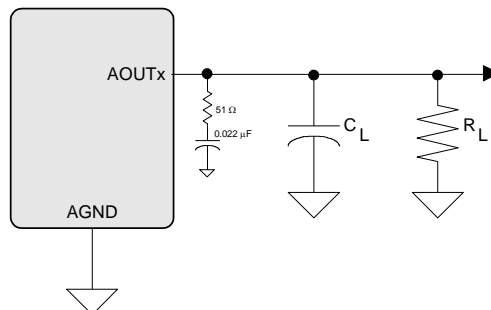

Figure 3. Headphone Output Test Load
(Test conditions (unless otherwise specified): Input test signal is a full-scale 997 Hz sine wave; measurement bandwidth is 10 Hz to 20 kHz; Sample Frequency = 48 kHz and 96 kHz; test load $R_L = 10\text{ k}\Omega$, $C_L = 10\text{ pF}$ for the line output (see Figure 3), and test load $R_L = 16\ \Omega$, $C_L = 10\text{ pF}$ (see Figure 3) for the headphone output.
Test conditions (unless otherwise specified): Input test signal is a full-scale 997 Hz sine wave; measurement bandwidth is 10 Hz to 20 kHz; Sample Frequency = 48 kHz; test load $R_L = 10\text{ k}\Omega$, $C_L = 10\text{ pF}$ (see Figure 3).
Test conditions (unless otherwise specified): Input test signal is a full-scale 997 Hz sine wave; measurement bandwidth is 10 Hz to 20 kHz; Sample Frequency = 48 kHz; test load $R_L = 16 \Omega$, $C_L = 10 \text{ pF}$ (see Figure 3).
- See Figure 3. R_L and C_L reflect the recommended minimum resistance and maximum capacitance required for the internal op-amp's stability and signal integrity. In this circuit topology, C_L will effectively move the band-limiting pole of the amp in the output stage. Increasing this value beyond the recommended 150 pF can cause the internal op-amp to become unstable.